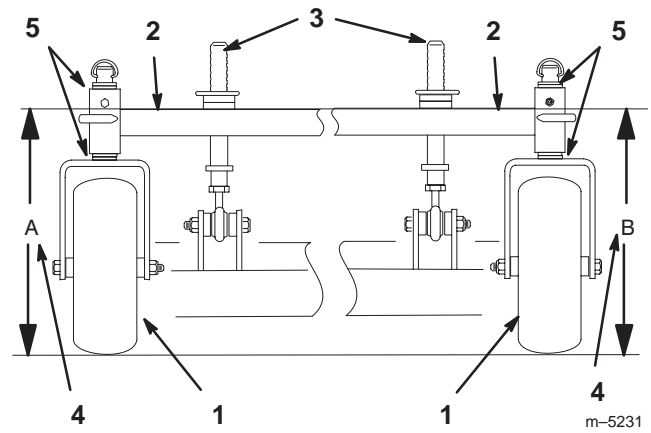

Figure 47
3. Measure carrier frame height at location "A" (Fig. 47).
4. Measure carrier frame height at location "B" (Fig. 47).